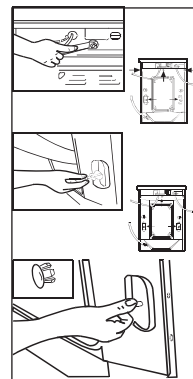

Figure 2
- Remove the packing screws as shown in Figure 2.